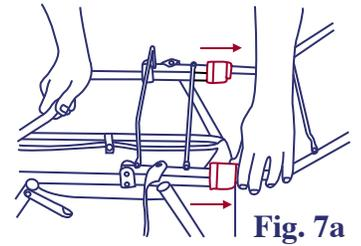
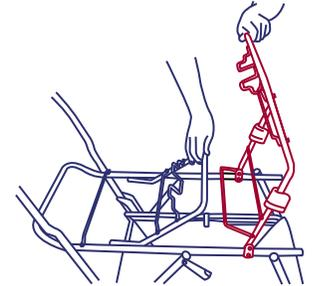

Fig. 7a
Fig. 7b
- The front section of the frame may be folded back to reduce the folded size of the stroller. To fold the front frame, slide the plastic fittings forward while lifting upward on the frame. Rotate the front frame backwards to rest on the rear portion of the frame. Please see figure 7a and 7b.
- Extend the front frame by rotating it forward. See figure 7b. Check that the two plastic fittings both latch onto the front upper tube of the stroller frame. See figure 7a.